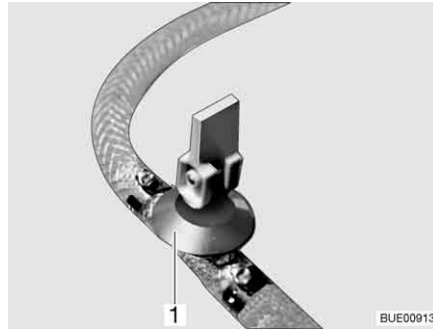
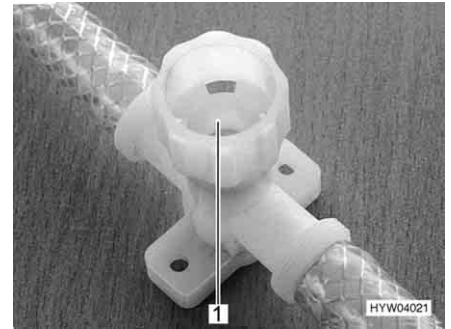

Fig. 211 Drain cock (with rocking lever)
Fig. 212 Drain cock (with twist cap)
- Open all drain cocks. To do this, position the drain cock's rocking lever (Fig. 211,1) vertically or turn the drain cock's cap (Fig. 212,1) in an anti-clockwise direction.